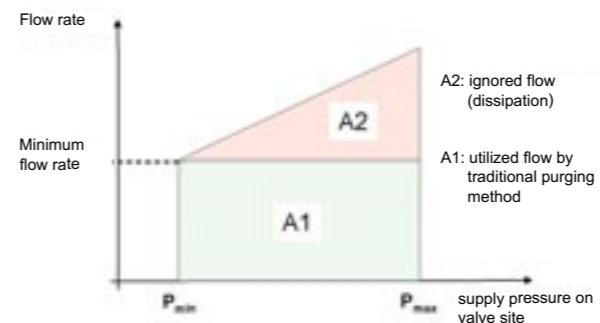

Figure 1: Comparison of the purging medium consumption
2. In contrast to the traditional method, with the **integrating** purging method the actual volume flow at the Ex-p enclosure outlet is measured and integrated. This is a safe and economical purging method. See also Fig.1.